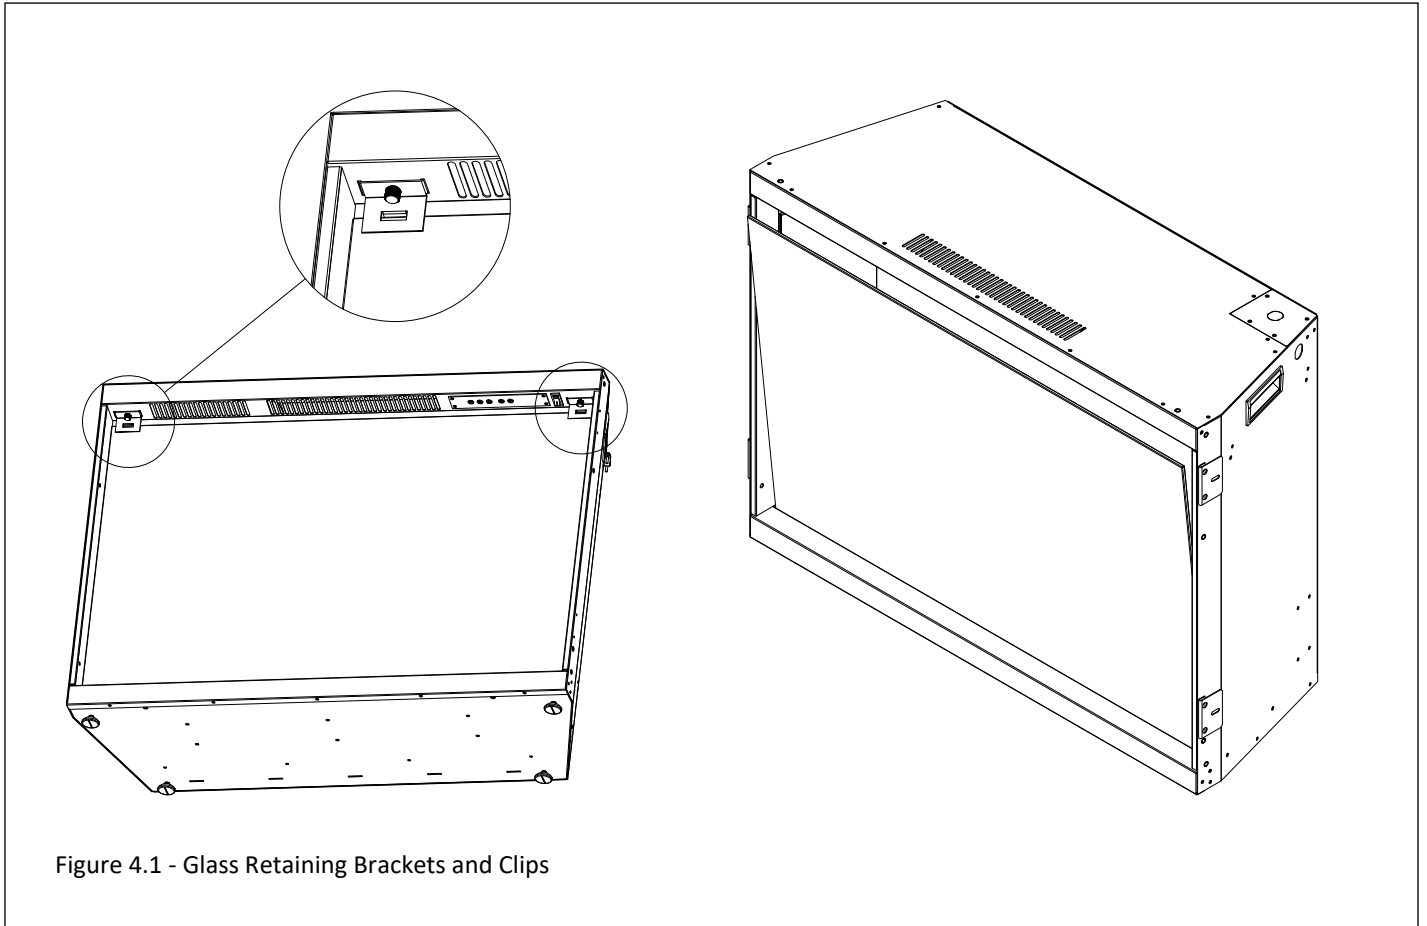

Figure 4.1 - Glass Retaining Brackets and Clips
1. With one hand on the glass front to prevent it from falling, remove the screws and brackets from the top right and left of the glass. Save these components. See Figure 4.1.